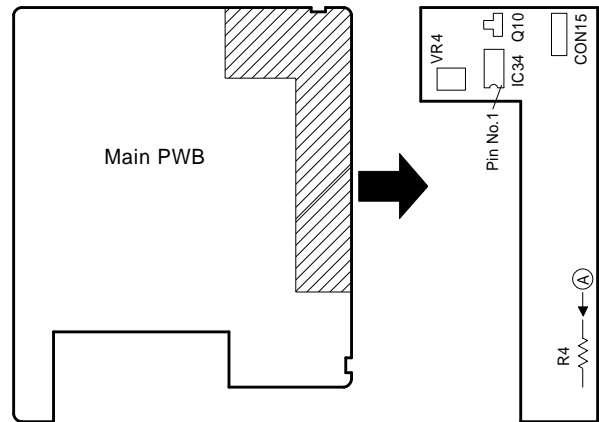
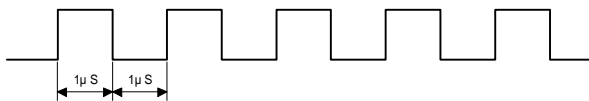

Fig. 6 Board location
Fig. 10 Waveform at IC34 (pin 1 of the 75115 IC in the receiver terminal)
Adjust the receiver terminal adjust VR4 (20k Ω) on the main PWB until the waveform as shown in Fig. 10 is obtained at IC34 (pin 1 of the 75115). (For the location of VR4, see Fig. 6 Board location of this subsection).
Make sure that the voltage at the A-side lead of the R4 resistor (150 Ω , 3W) shown in Fig. 6 is properly switched.
- ii) Run the diagnostic program "Data send check", and make sure that the voltage at point A (in Fig. 6) is switched as shown in Fig. 11.